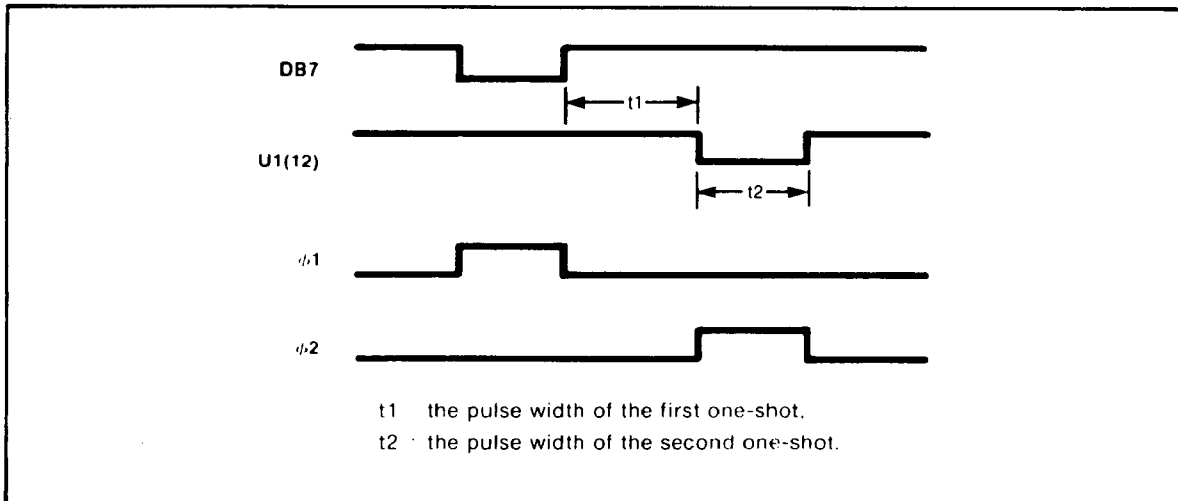

Figure 8-22. LCD Synchronization and Timing Diagram
8-344. Synchronization and timing are governed by two non-overlapping clocks, $\phi 1$ and $\phi 2$. $\phi 1$ is generated in software and comes to A7 via DBUS 7, through inverting buffer U6C, to the display drivers. $\phi 2$ is generated by dual monostable IC U1, on the A7 board. The first one-shot is triggered by the rising edge of DBUS 7. The resultant positive-going pulse at U1(13) is fed into the inverting input of the second one-shot at U1(9). On the falling edge of this pulse the second one-shot triggers, causing a negative-going pulse on its inverting output, U1(12). This pulse is then inverted by open-collector buffer U6B. Thus, the display drivers receive a positive-going pulse on their $\phi 2$ inputs, as shown in *Figure 8-22*.